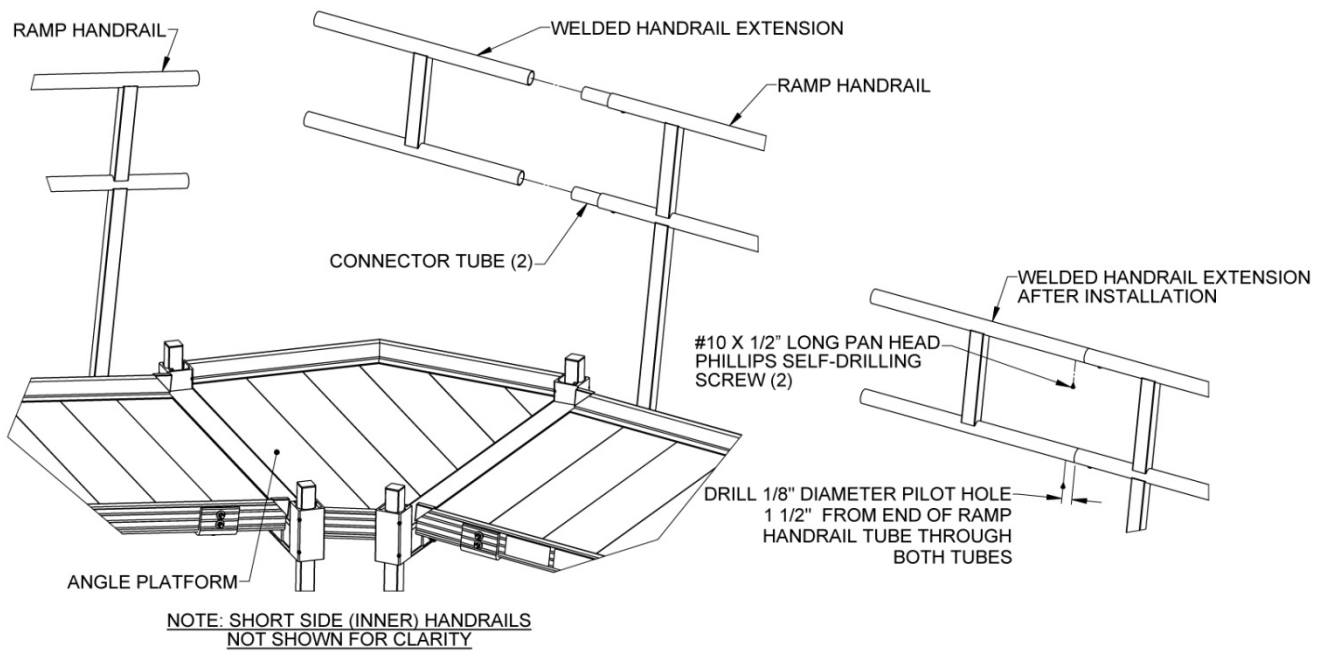

FIG. 6
- 4.6. Slide the “H” shaped welded handrail extension on to the connector tubes installed in the previous step (FIG. 6).
- 4.7. Drill 1/8” diameter pilot holes on the underside of the handrail extension tubes 1-1/2” from the end of the ramp handrail. Drill through one wall of both handrail extension and connector tubes (FIG. 6).